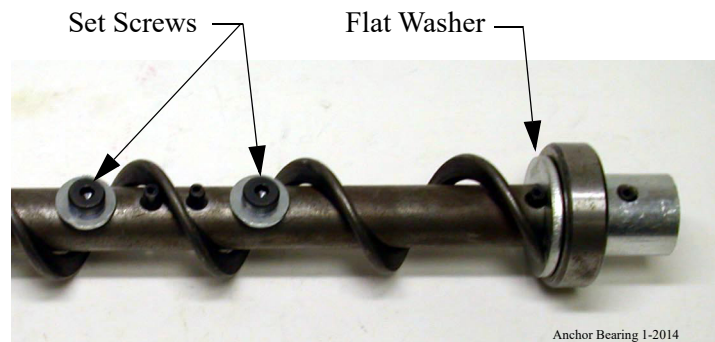

Figure 68. Auger and Anchor Bearing Connection
1. Insert the Anchor Assembly into the auger, guide the tip of the auger between the two roll pins in the center of the anchor. Continue to guide the auger until the tip of the auger hits the flat washer. Tighten the setscrews in the center of the anchor until they touch **Figure 68.**